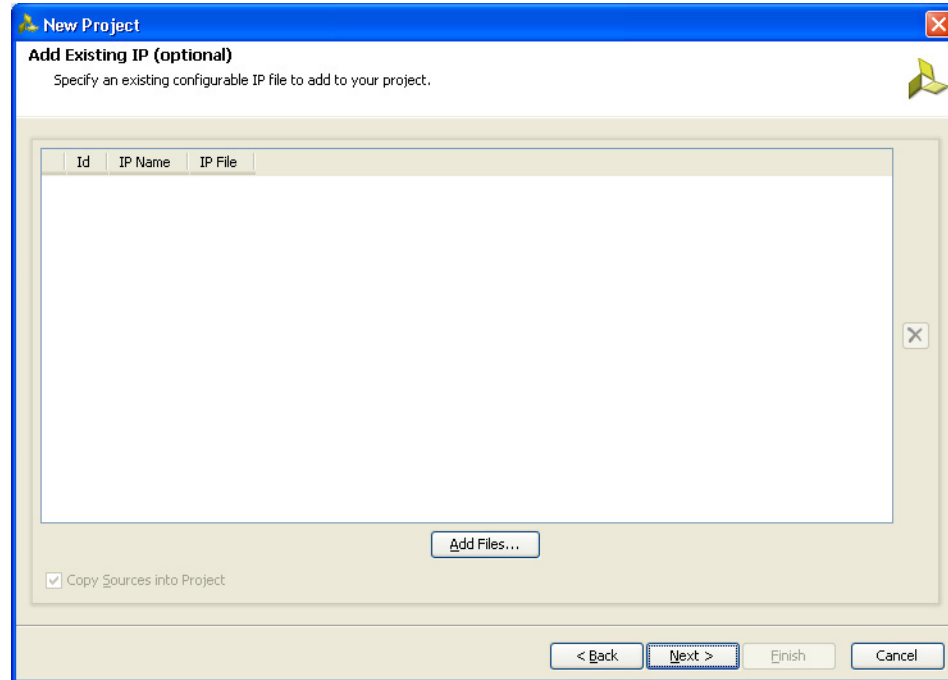

Figure 1-6: Add Existing IP (Optional)
6. Click **Next** to open the Add Existing IP (Optional) page (Figure 1-6). If the IP is already created, the XCI file generated by the IP can be added to the project and the previous created IP files are automatically added to the project. If the IP was not created earlier, proceed to the next page.